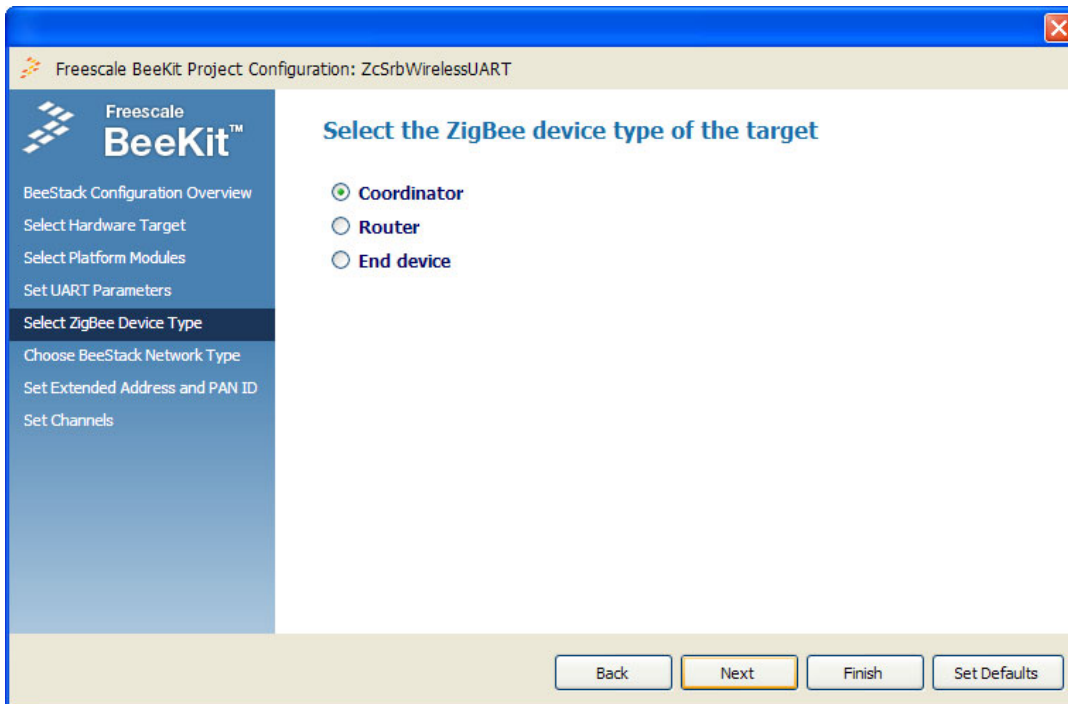

Figure 5-7. ZigBee Device Type Selection Page for Coordinator Device
- Click the Next button and the Select ZigBee Device Type window appears as shown in Figure 5-7. Ensure that the “Coordinator” option is selected.